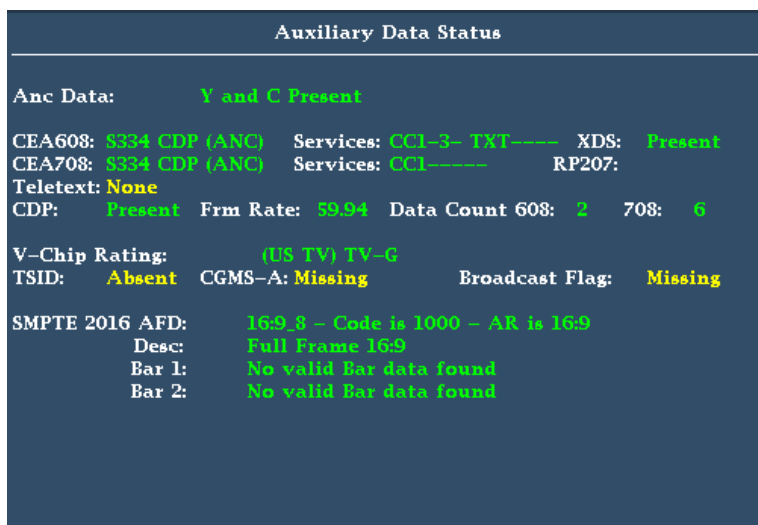

Figure 59: Auxiliary Data Status display
4. Select **Aux Data Status**. The Auxiliary Data Status display shows the status of the closed caption data. (See Figure 59.)
View the graticules in the Picture display. AFD information can viewed in the Auxiliary Data Status display. (See Figure 59 on page 174.)